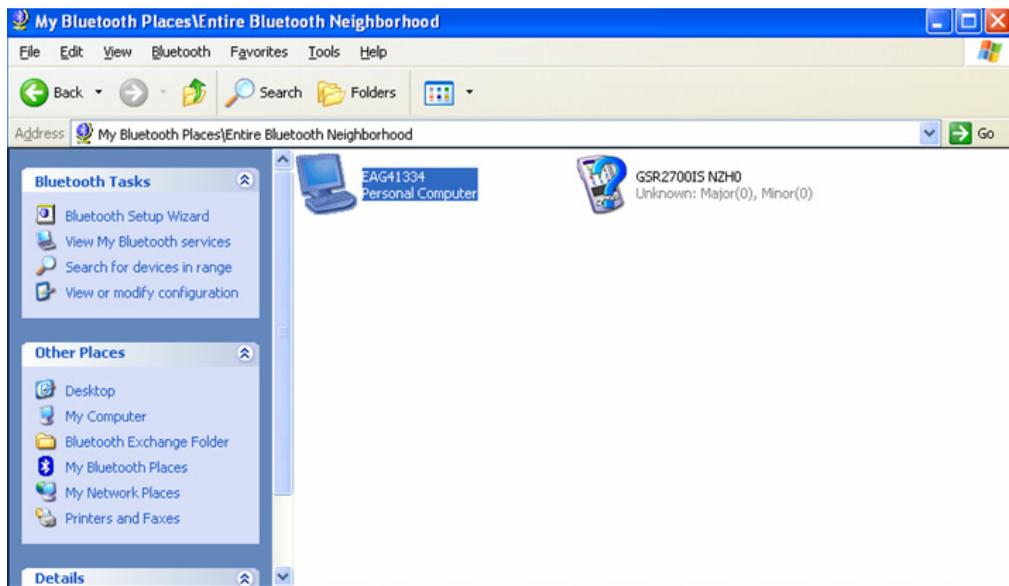

Figure 23: My Bluetooth Places Window
3. Click on the *Search for devices in range* option from the *Bluetooth Tasks* side bar on the left of the *My Bluetooth Places* window. Devices with *Bluetooth* wireless technology enabled within range appear in the *Entire Bluetooth Neighborhood* folder, see *Figure 23* below.
1. Double-click the SMART-AG device icon in the *Entire Bluetooth Neighborhood* window, as shown in *Figure 23* on page 54. The computer searches for available services. If *Bluetooth* is working properly, a COM port service appears.
2. Click on the *Search for devices in range* option from the *Bluetooth Tasks* side bar on the left of the *My Bluetooth Places* window. Devices with *Bluetooth* wireless technology enabled within range appear in the *Entire Bluetooth Neighborhood* folder, see *Figure 23* on page 54.
3. Double-click on the SMART-AG device icon in the *Entire Bluetooth Neighborhood* window, see *Figure 23* on page 54. The computer searches for available services. If *Bluetooth* wireless technology is working properly, COM port service appears.